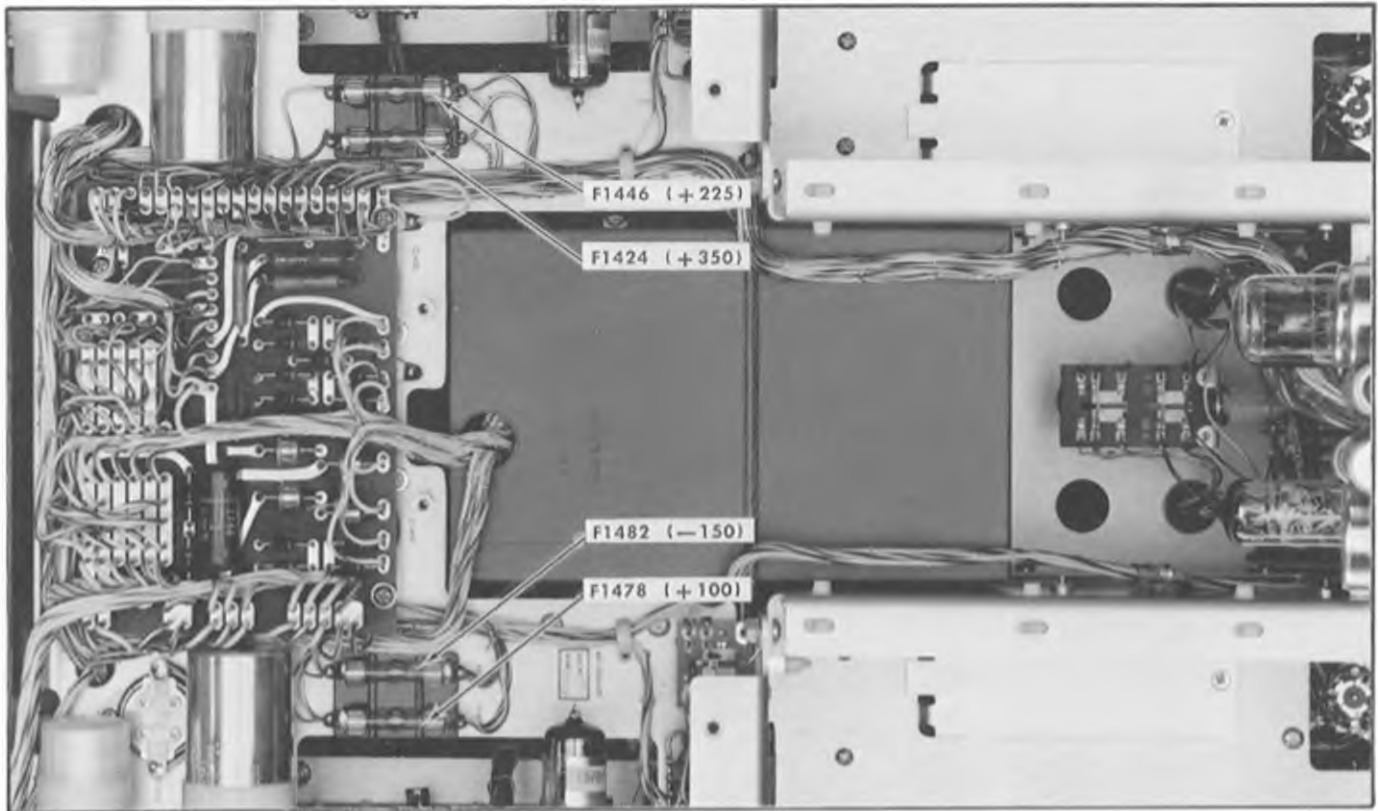

Fig. 4-3. Power Supply fuse locations, bottom view.
**Fuse Replacement.** Table 4-1 shows the ratings of the fuses used in this instrument. Refer to Figs. 4-3 and 4-4 for the locations.
Check all fuses. Often a blown fuse cannot be detected by visual means. The ratings and locations of fuses are shown in Table 4-1 and Figs. 4-3 and 4-4.